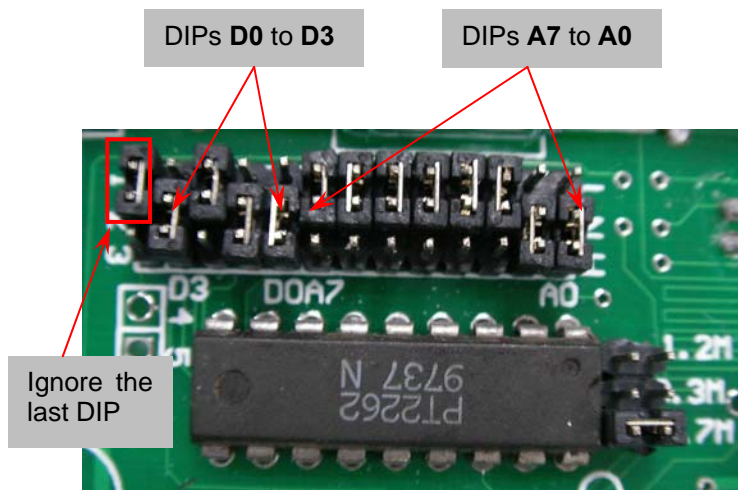

Fig.5 Wireless Door / Window sensor DIP Switch
1. Open the Door / Window sensor casing (use a flat head screwdriver and pry it open from the bottom). Inside will be one long row of DIP switches (see Fig.5).